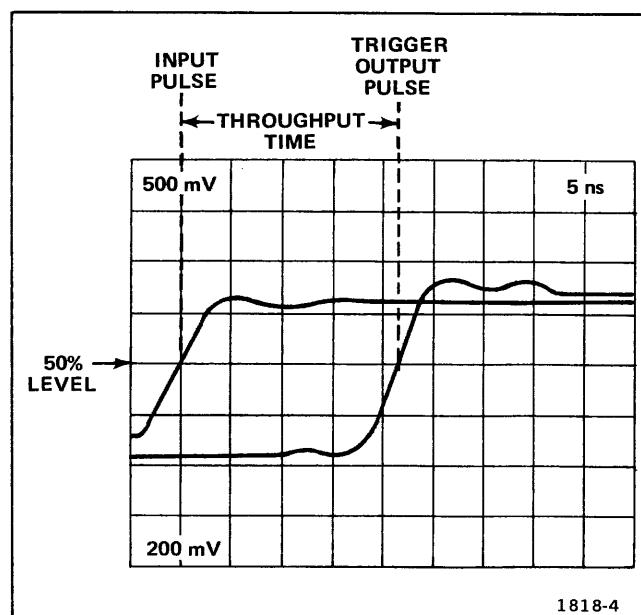

Fig. 5-2. Simulated display of the time relationship between the input and delayed trigger output signals.
- e. CHECK—Time difference between two pulses (at 50% level) for less than 30 nanoseconds. Refer to Fig. 5-2.